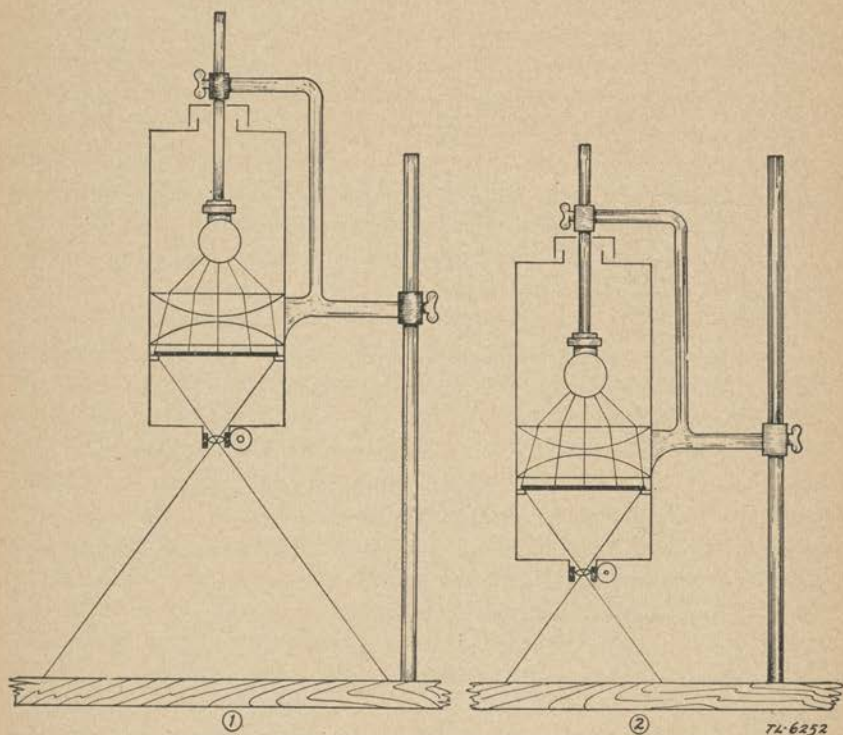

FIGURE 5.—Location of printer head for print size selection.
c. *Optical system.*—The optical system consists of a lamp, two condensing lenses, and an enlarging lens. (See fig. 5.)
(4) *Mechanics of focusing.*—The size of the projected image (fig. 5) depends on the distances between the negative, lens, and paper board, as well as on the focal length of the enlarging lens. Because of the constructional design, and the use of an enlarging lens of one focal length, the only variable factor that materially affects the print size is the distance between the negative and the paper board. The lens adjustment changes the relation between negative and lens very slightly, and is used for focusing purposes. The greater the distance between the printer head and the paper board (fig. 5①) the larger the size of the projected image. Conversely, the shorter the distance between the two elements (fig. 5②) the smaller the image. Whenever adjustments are made for a different print size, the lens must be refocused.